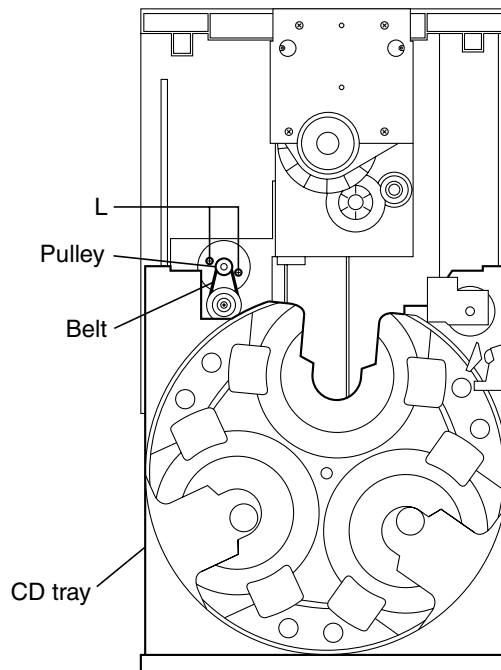

Fig.19
■ Replacing the loading motor and belt of the CD changer tray (See Fig.19)